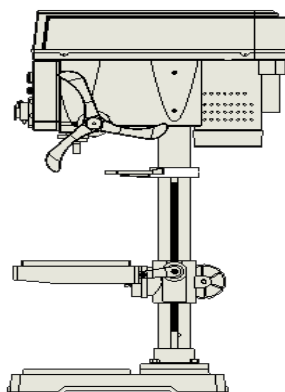

Figure 5
Step 6 Put the head attached to the column. turning left and right and press the head down,. make sure that the column has been inserted into the top of the nose, and there is no gap between the column and the head.. Figure 5